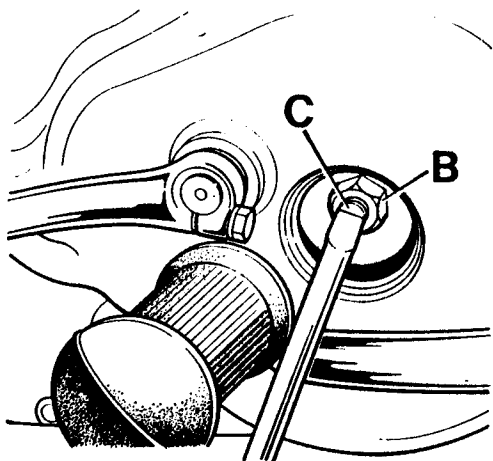

Fig. C51 Clutch adjustment
- 5 Release nut (B) in Fig. C51 then turn the screw (C) gently anti-clockwise until movement is felt on the right side operating lever.
- 6 Turn screw (C) in a clockwise direction until it is felt that the screw just touches the push rod.
- 7 Unscrew adjustment screw (C) one full turn and, holding in this position retighten locknut (B). This ensures the correct free movement on the clutch push rod.